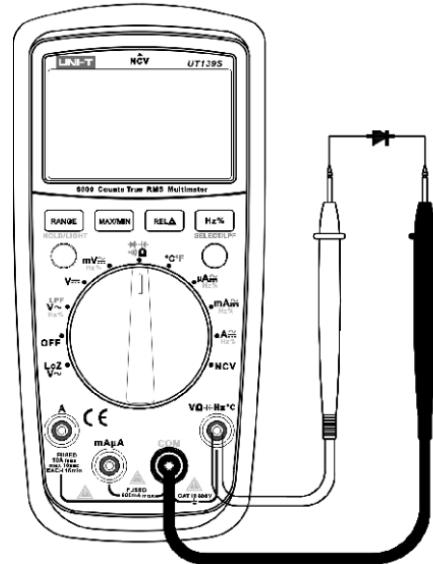

Figure 5
**4. Diode measurement (see figure 5)**